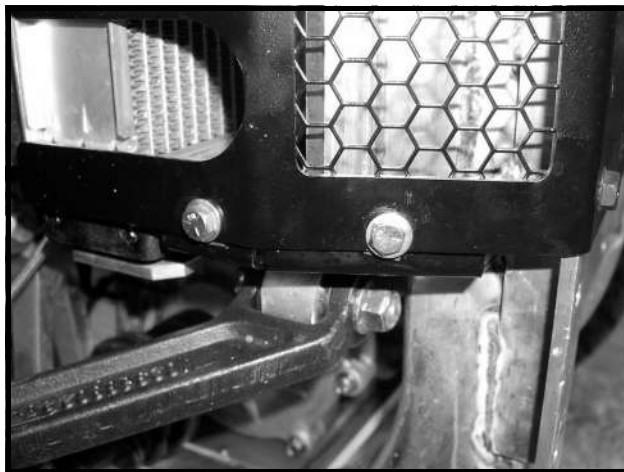

Figure 15-4 Radiator Bottom Shield Plate Bolts
7. Remove the radiator bottom shield plate bolts (**Figure 15-4, Page 15-5**).
- 9.1. Loosely secure all four bolts and washers around the bottom edge of the guard and the bottom shield plate (**Figure 15-4, Page 15-5**).